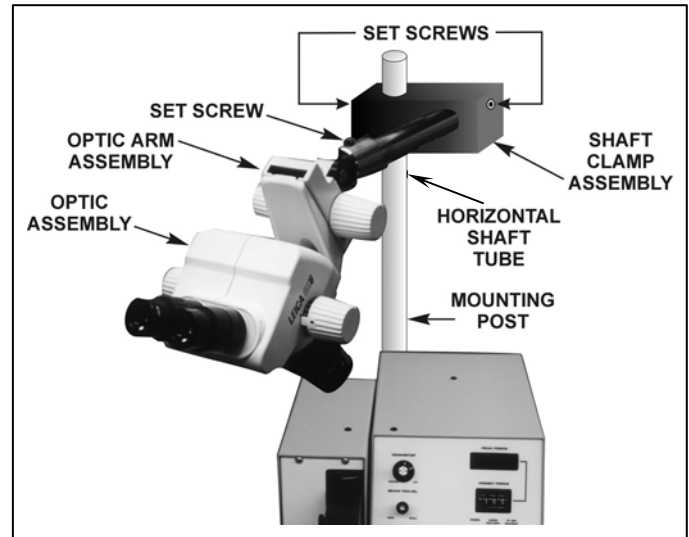

Figure 2-1. Optic Mounting Assembly
- 1 Secure the mounting post (figure 2-1) to the base plate with the three 1/4-20 x 1/2 inch flathead screws which are provided.